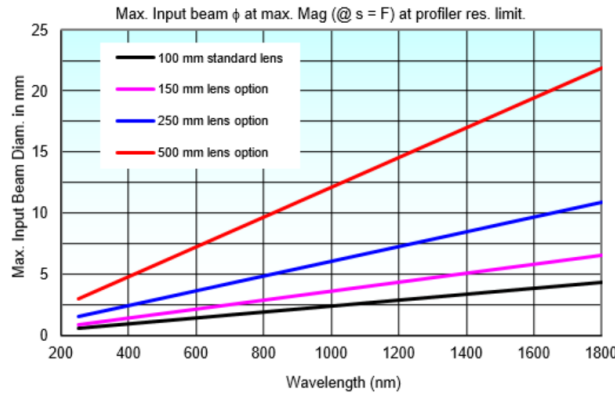

Fig. C.2: Maximum input beam diameter for various wavelengths.
- **Maximum beam diameter:** See Fig. C.2